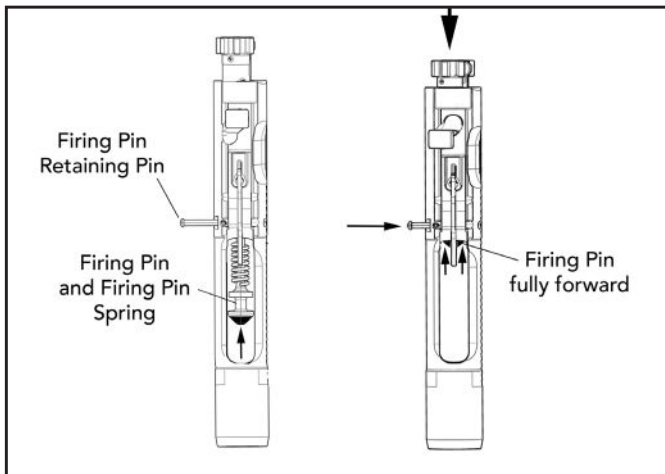

Fig. 63 – Firing Pin Retaining Pin Installation
- e. Ensure that the firing pin retaining pin is properly installed by pivoting upwards on the firing pin safety while pushing backwards on the bolt head. The firing pin should be retained inside the bolt carrier (Fig. 63).